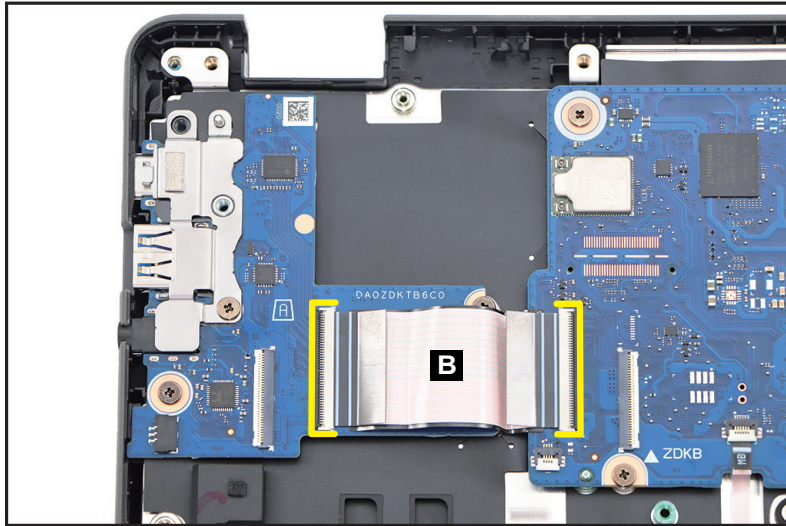

Figure 3-29. USB Board Removal
2. Disconnect the 45-pin I/O board (H) FFC (B) from the USB board and mainboard connectors (Figure 3-29). Then remove the FFC.